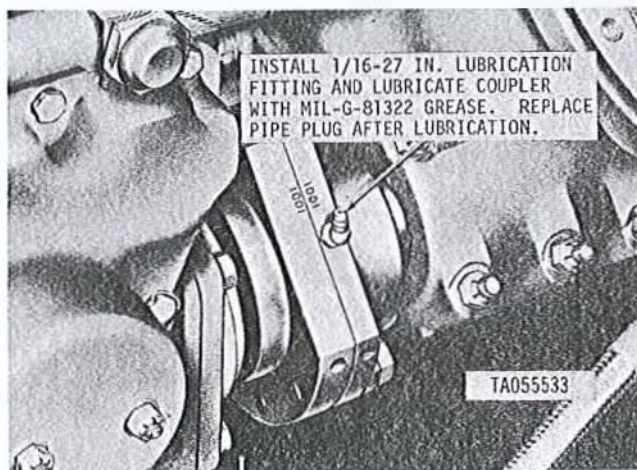

Figure 2-55. Fuel injection pump drive coupling with lubrication fitting installed.
(10) Install 1/16-27 lubrication fitting and lubricate coupling with MIL-G-81322 grease. Discontinue adding lubrication when grease shows in the hole on opposite side of coupling. Over filling cavity will result in failure of coupling seals. Remove lubrication fitting. Install the pipe plugs (fig. 2-55).